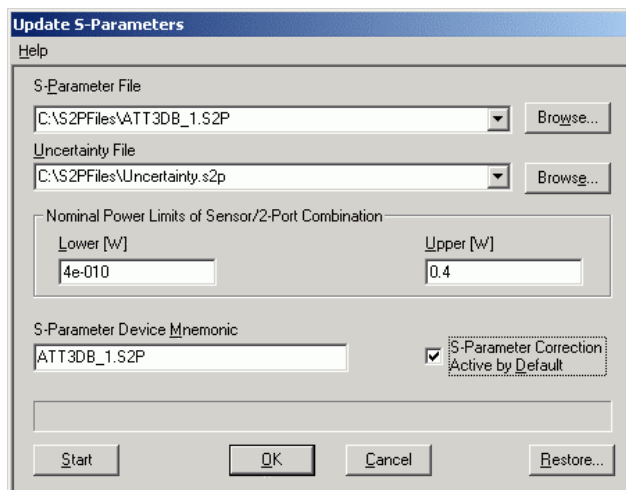

Fig. 3-3 Dialog window for loading an s-parameter table
2. Activate **Update S-Parameters** in the menu. The corresponding dialog window is opened (Fig. 3-3).